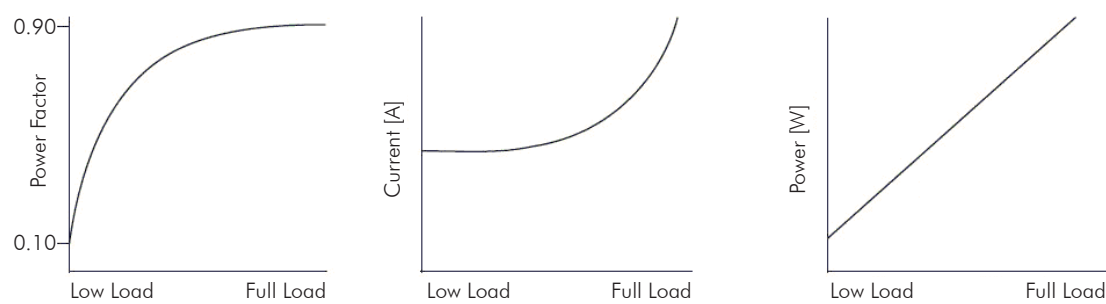

Figure 5.32 - Behavior of the Power Factor, Current and Power based of the load applied
Figure 5.32 presents the behavior of the power factor, of the current and of the power based on the load applied. The power factor can vary more than the current or real power of the motor, mainly with low load applied. For a motor in this condition, the typical power factor is lower than 0.10. Less than 10 % of the apparent power (S) is transformed into real power (P). With the increase in the load, the power factor increases, reaching a typical value of 0.90 at full load.